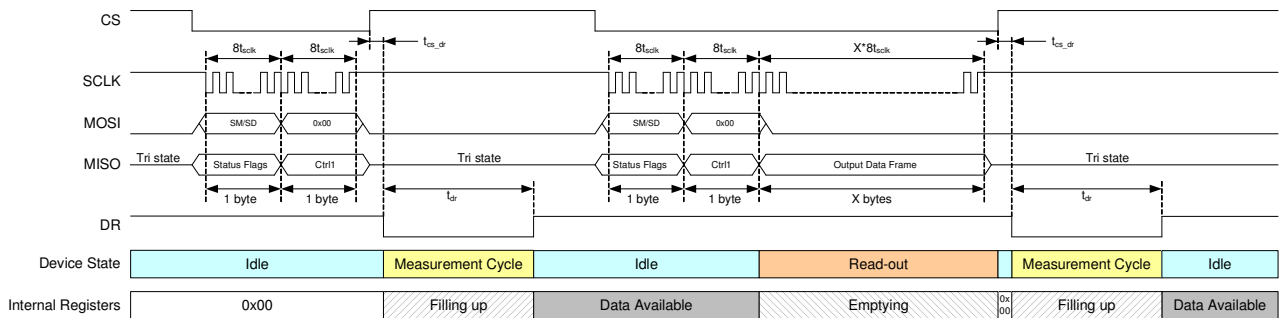

Figure 14 : Combined SM - RO (X value is defined in Figure 12)
- Figure 14 shows the operation with the combined SM and RO. First one has to upload a SM command to start a measurement. The data is available for read-out when the DR pin goes high. Instead of uploading a RO command, a SM command can be uploaded again to combine read-out and the start of the next measurement cycle. If extra clocks are given after upload of the SM command, the data of the internal registers becomes available on the MISO pin. Note that the CS pin shall not be set high until the read-out is finished. Once CS pin goes high, the DR pin is set low and a new measurement cycle will be started. A time t_{dr} later the DR pin goes high to indicate that the data is available.